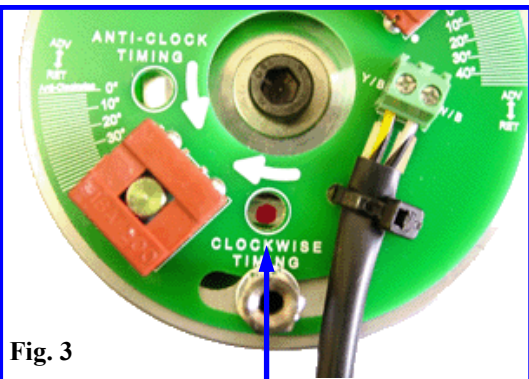

Fig. 3
11. Slacken the centre bolt using an M5 hex key and position the rotor until one of the red indicator marks can be seen through the appropriate static timing hole in the trigger plate (clockwise for most machines), with the plate positioned midway on its adjustment slots. **See figs. 3/4 on page 9.** [The magnetic rotor centre thread (metric M8) is provided for attaching a puller, if the rotor should need to be removed for engine servicing, etc.]